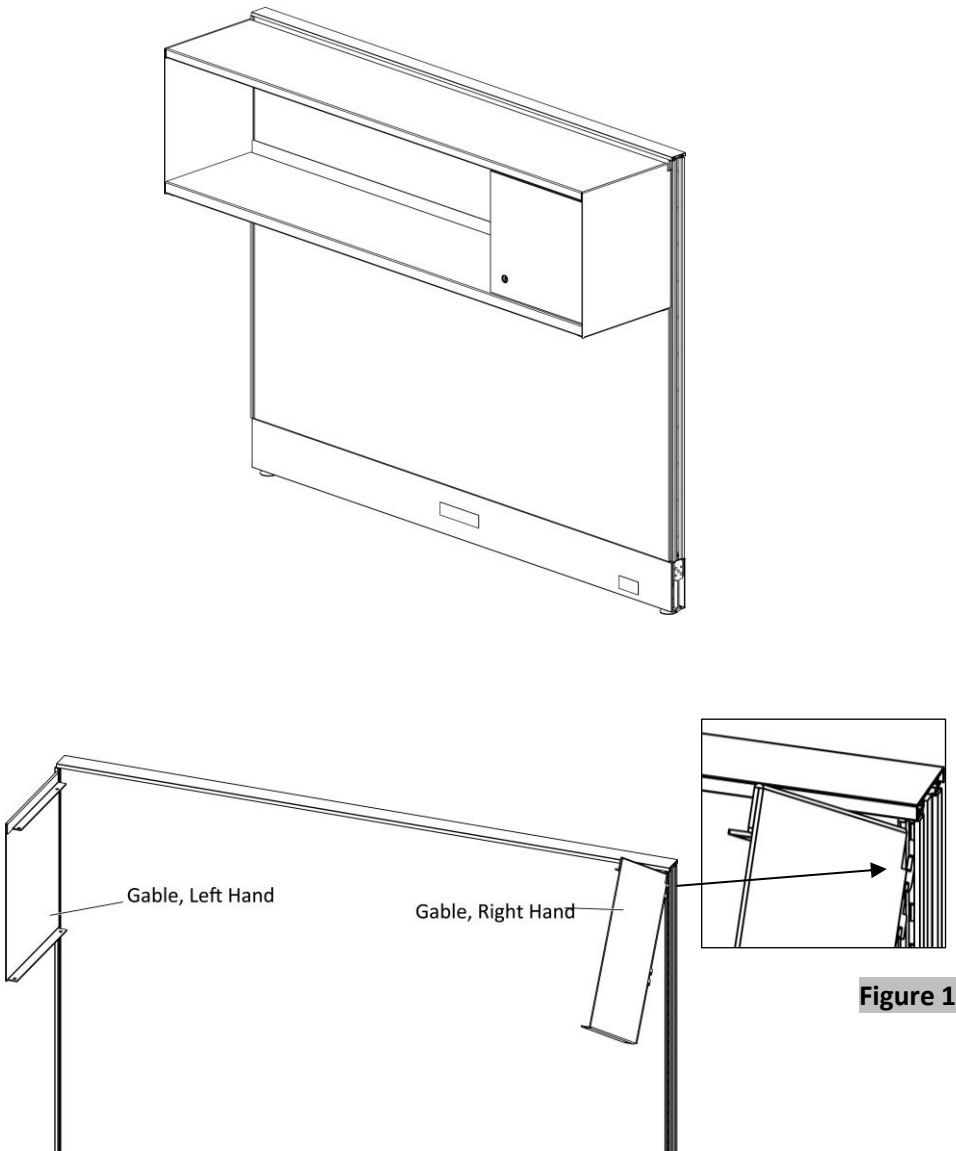

Figure 1
2. Place the upper hooks at their desired location into the slotted frame channel; lower the gable and place the other hooks then release them down and it will be engaged, (Figure 1).